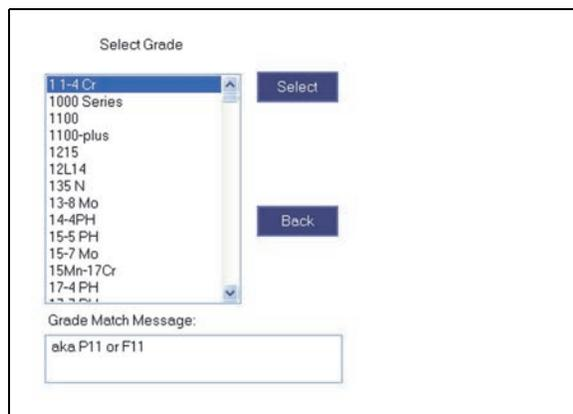

Figure 2-10 The Select Grade pane
3. In the **Select Grade** pane, select a grade (see Figure 2-10 on page 55).